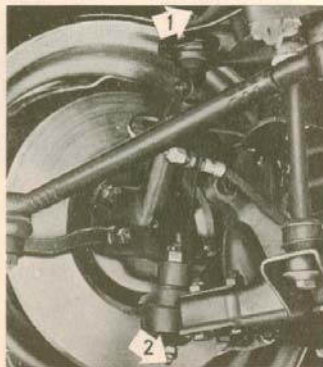

Fig. 12-22. Ball joint
- Note 3. On a certain series of cars the upper ball joint (1, Fig. 12-22) is of a type that does not require to be lubricated and therefore does not have a lubricating nipple.